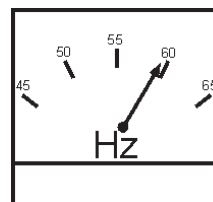

Figure 67. Frequency Meter (Hz)
- The generator's frequency meter (Figure 67) displays the 60 cycle output frequency in **HERTZ**.